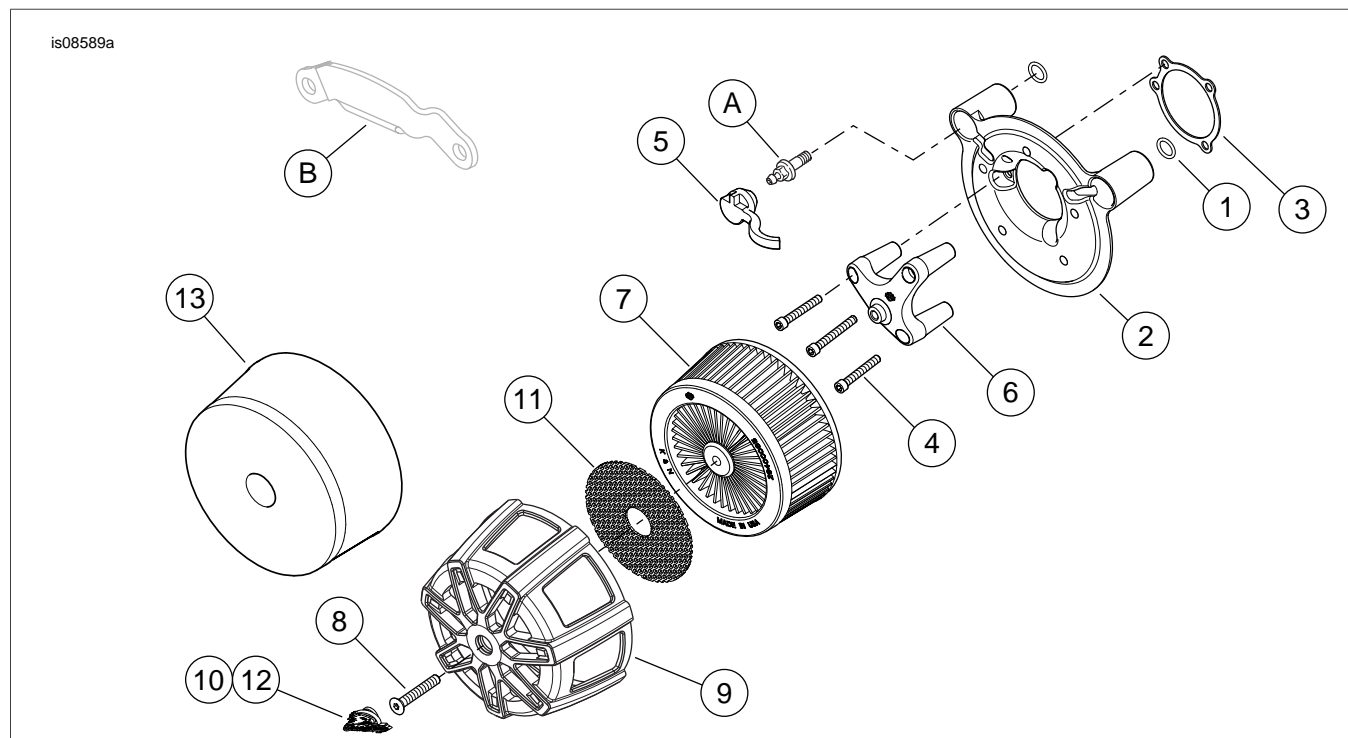

Figure 1. Service Parts, Screamin' Eagle Performance Air Cleaner Kit
See Figure 1 and Table 1.
3. See Figure 1. Remove and discard induction module bracket (B).
1. See Figure 1. Install two O-rings (1) from kit in grooves around breather screw holes on induction module side of backplate assembly (2).
2. Align flat edge of gasket (3) with the molded tab. Install gasket on induction module side of backplate
3. Insert breather screws (A) through the backplate.
6. Thread air cleaner mounting screws (4) through mounting bracket (6) and into backplate (2) until screw threads are captured in induction module. Leave fasteners loose.
7. Alternately tighten two breather screws (A) to 120-144 **in-lbs** (13.6-16.3 Nm).
8. Tighten three air cleaner screws (4) to 55-60 **in-lbs** (6.2-6.8 Nm).
9. Press breather plugs (5) into breather screw cavities, aligning tubes with recesses in backplate.
1. See Figure 1. Install the air cleaner filter element (7) and cover (9). Before tightening the center screw, align the cover using the medallion for best appearance. Tighten center screw to 36-60 **in-lbs** (4.1-6.8 Nm).